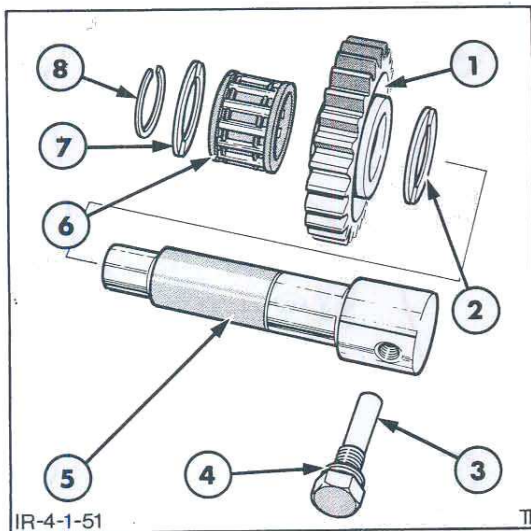

Figure 82
1. Thoroughly clean the reverse idler gear components, Figure 82 with a suitable solvent and allow to dry.